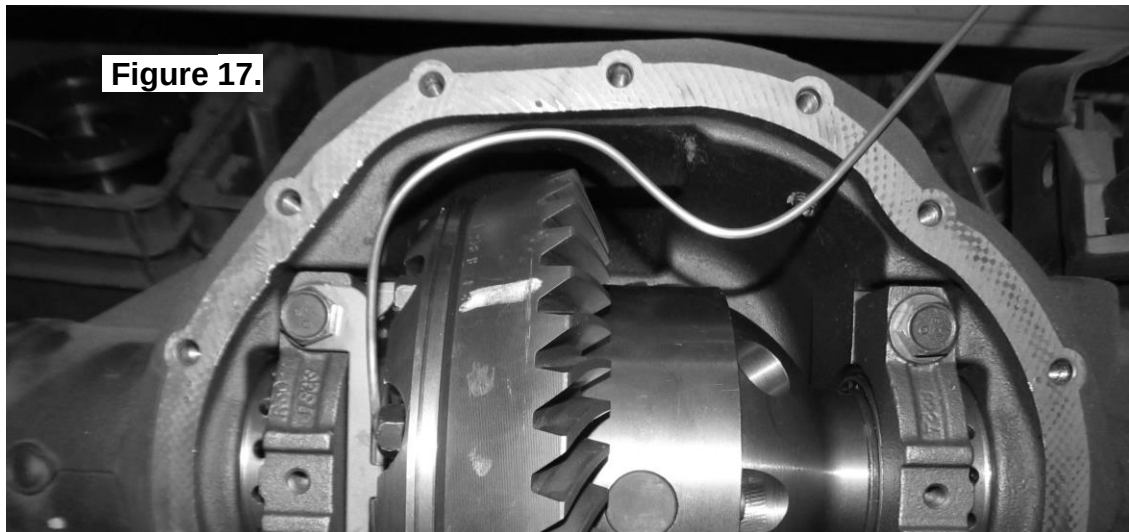

Figure 17.
- ☐ Without using sharp jagged tools such as pliers (your hands are the best tool for this job) gently bend the seal housing tube in a shape that will clear the differential and housing, and exit through the bulkhead port as shown in Figure 17.